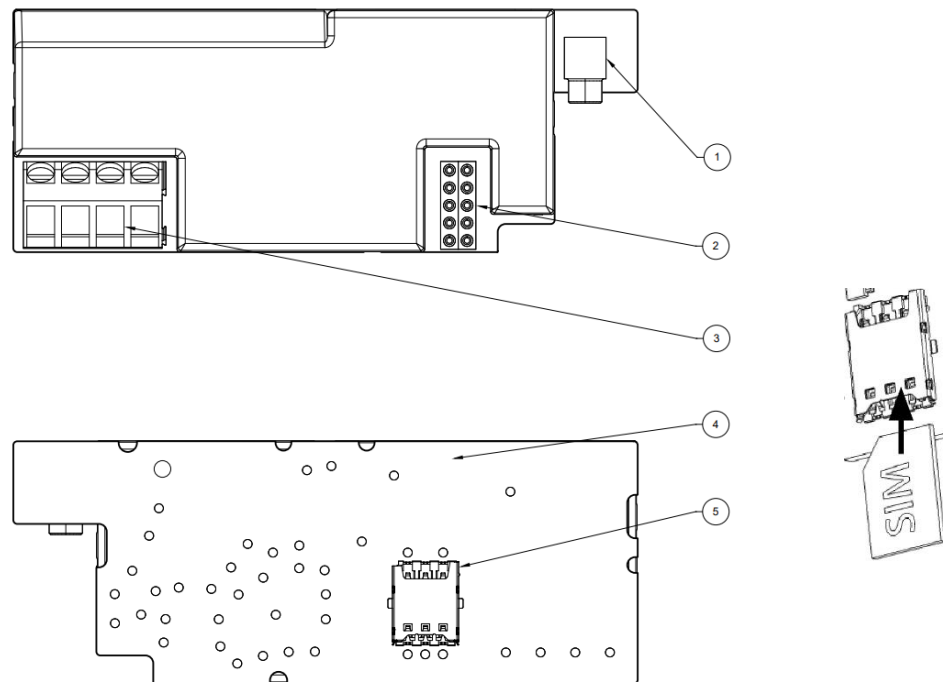
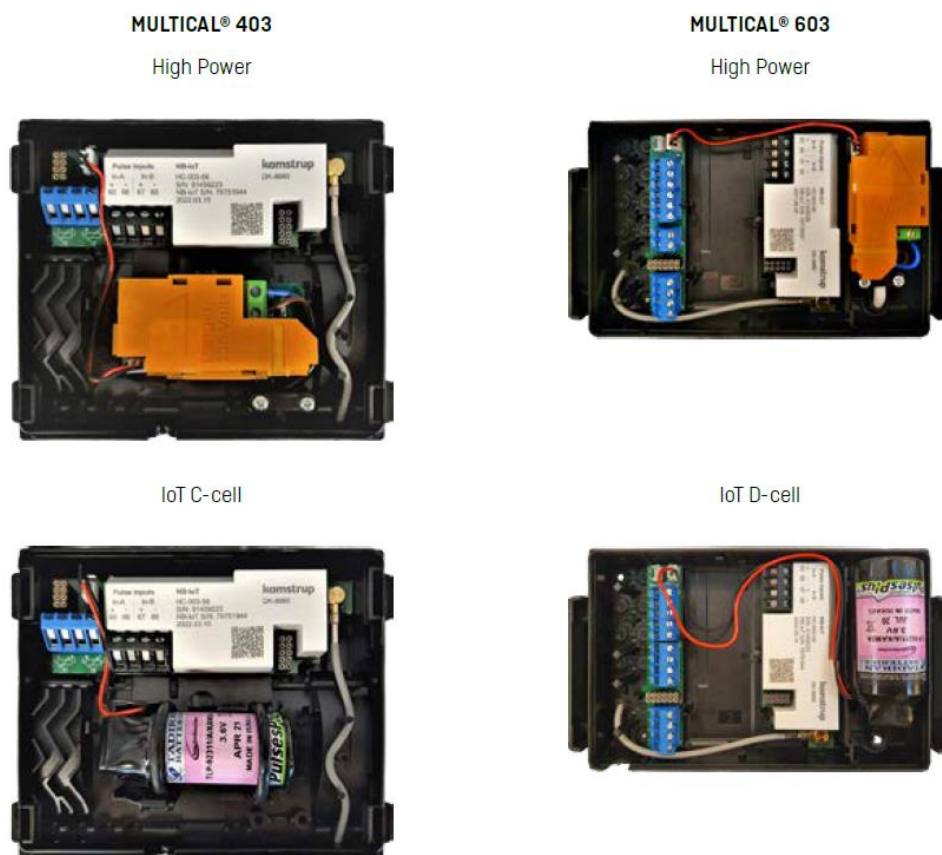

Figure 1. Product overview
Figure 2. Mounting options
To use CMi6140, a SIM card (size: Nano) needs to be mounted in the SIM card holder (5), see Figure 1. The module is thereafter mounted in module slot 1 or 2 of a Kamstrup MC403, MC603, or MC803, see Figure 2. Grab the module by the outer edges and gently press it into position. Make sure to connect external antenna to the module MCX antenna connector.